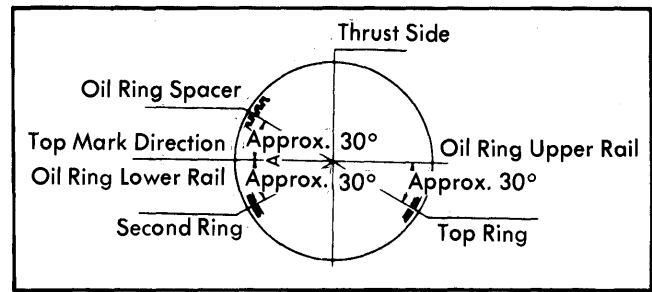

Fig. 2 Piston Ring Gap Position
- 3) On 1400 models only, install rings on piston and space as shown in Fig. 2. Install circlip in rear side of piston. Fit piston to liner. Push piston pin in until it protrudes about .039" (1 mm) from inside edge of pin boss. Make sure pistons are aligned so pin circlip can be fitted.
- 4) On 1600 models only, install rings on each piston. Stagger rings as shown in Fig. 2. Insert circlip into rear end of piston (faces rear) on No. 1 and No. 2. On No. 3 and No. 4 cylinders, insert circlip into front end of pistons (faces front).